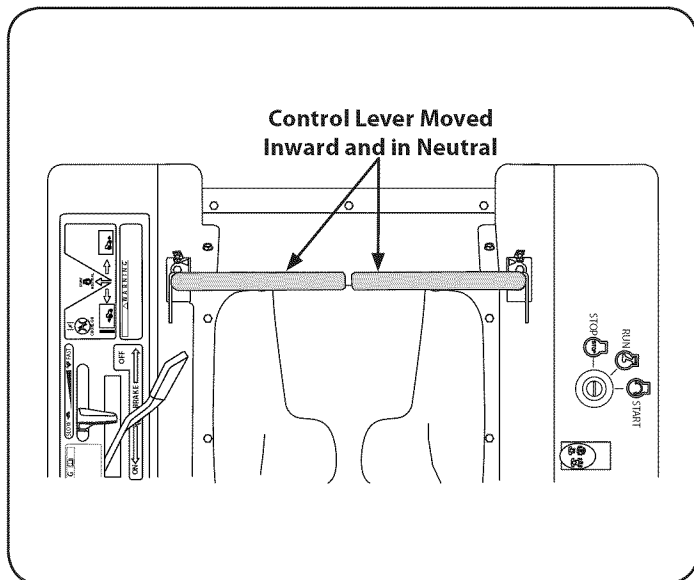

Figure 5
1. Lift and swing the control levers up into the operating position. See Fig. 5.